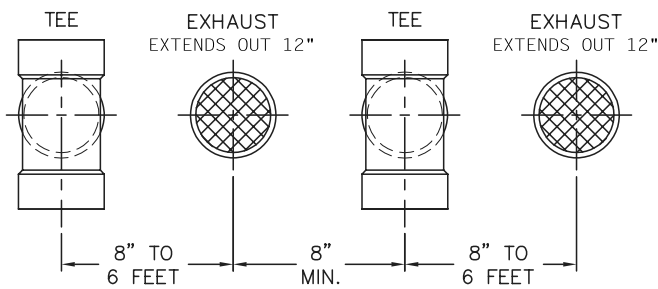

Fig. 4.2 Multiple Vent Spacing\*
- c. When venting with a two pipe system, maximum distance between air intake and exhaust vent is 6 feet (1.8 m). Minimum distance between exhaust vent and air intake on single boiler is 8" (0.2 m) center-to-center. Minimum distance between vents and intakes on multiple boilers is 8" (0.2 m) center-to-center. See Figure 4.2.